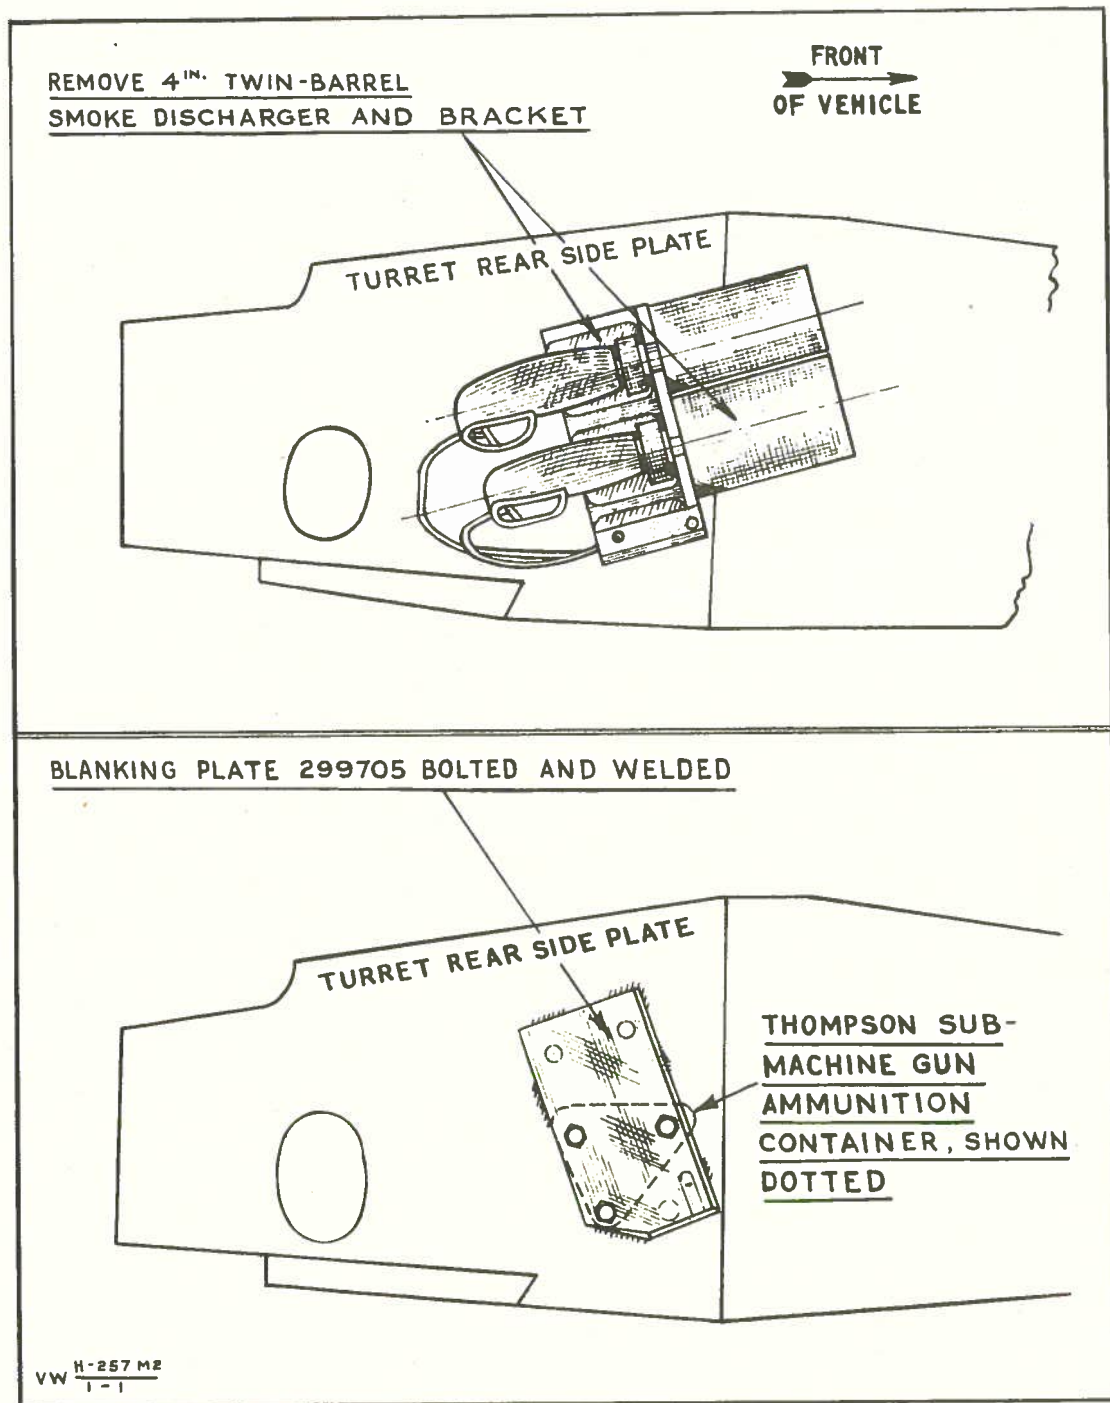

Fig. 1 - External view of turret, offside
- (i) When requested by units, carry out this modification in accordance with the instructions given in paras. 6 and 7 and Figs. 1, 2, 3 and 4.
- (a) Refer to Fig. 1. Remove and discard the two 4 in. smoke dischargers and mounting bracket from the offside turret panel, and secure the blanking plate (Pt. No. 299705) to the turret rear side plate, using the three bolts of the Thompson sub-machine gun ammunition container and the three additional bolts (Pt. No. FB 306/12D) provided. Weld the blanking plate to the turret as shown, using the electrodes provided.